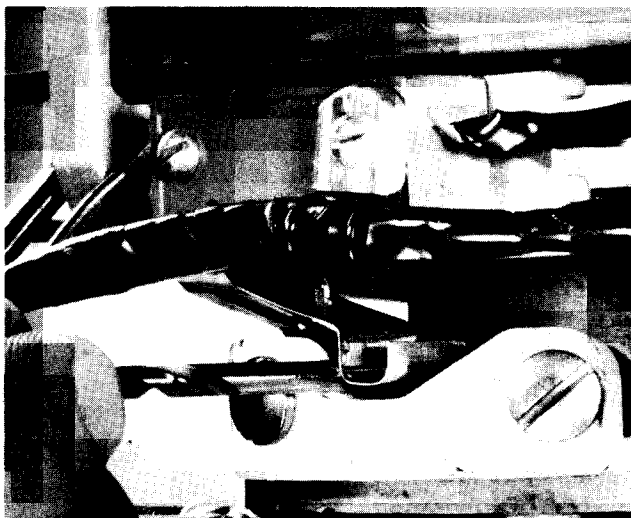

Figure 6. Forward Starting Switch Adjustment, Early Merc 700-600 Engines
- b. Insert a 5/32" drill or rod into interlock actuator cam between switch leaf and reverse cam lobe. (Figure 6)